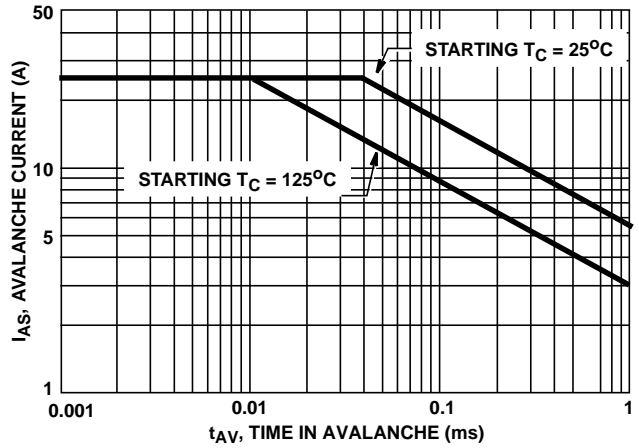

FIGURE 2. UNCLAMPED INDUCTIVE-SWITCHING
3.  $V_{DD} = 25\text{V}$ , Start  $T_J = 25^\circ\text{C}$ ,  $L = 1.5\text{mH}$ ,  $R_{GS} = 50\Omega$ ,  $R = 0$ . See Figures 2, 12, and 13.